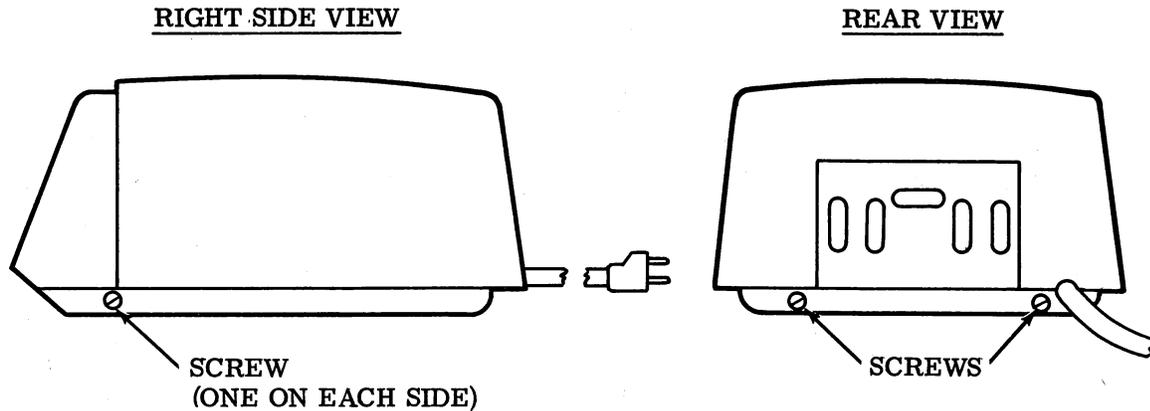

Figure 1 - Location of Cover Screws
2.02 When shipped, the unit may have packing inside the plastic cover to protect the relays. The packing must be removed before operation can begin. Loosen the two screws at the rear and one screw on each side of the cover (Figure 1). Lift the cover off the base, and remove the packing. Leave the cover off until after the service option is secured, the disc is coded, and the applicable checkouts are performed.